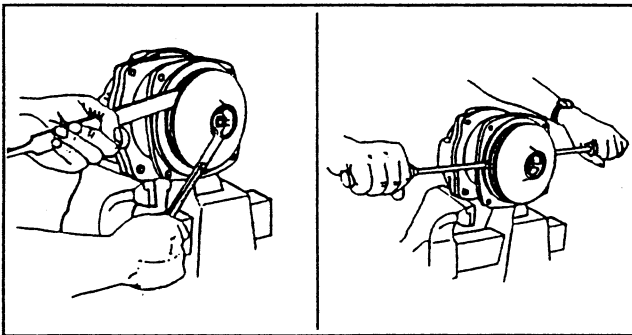

FIG. 10
2. To remove the impeller nut, clamp the flange in a vise and insert a large screwdriver or file (at least 10" long) into impeller vanes to prevent impeller from turning when loosening nut. Use a 5/8" box end or socket wrench to remove the impeller nut by turning it counter-clockwise. See FIG. 10.
3. Once nut is removed, place a screwdriver on each side (FIG. 10) behind the impeller and pry away from the mounting flange. Remove woodruff key from the shaft. Remove O-ring from the mounting flange.